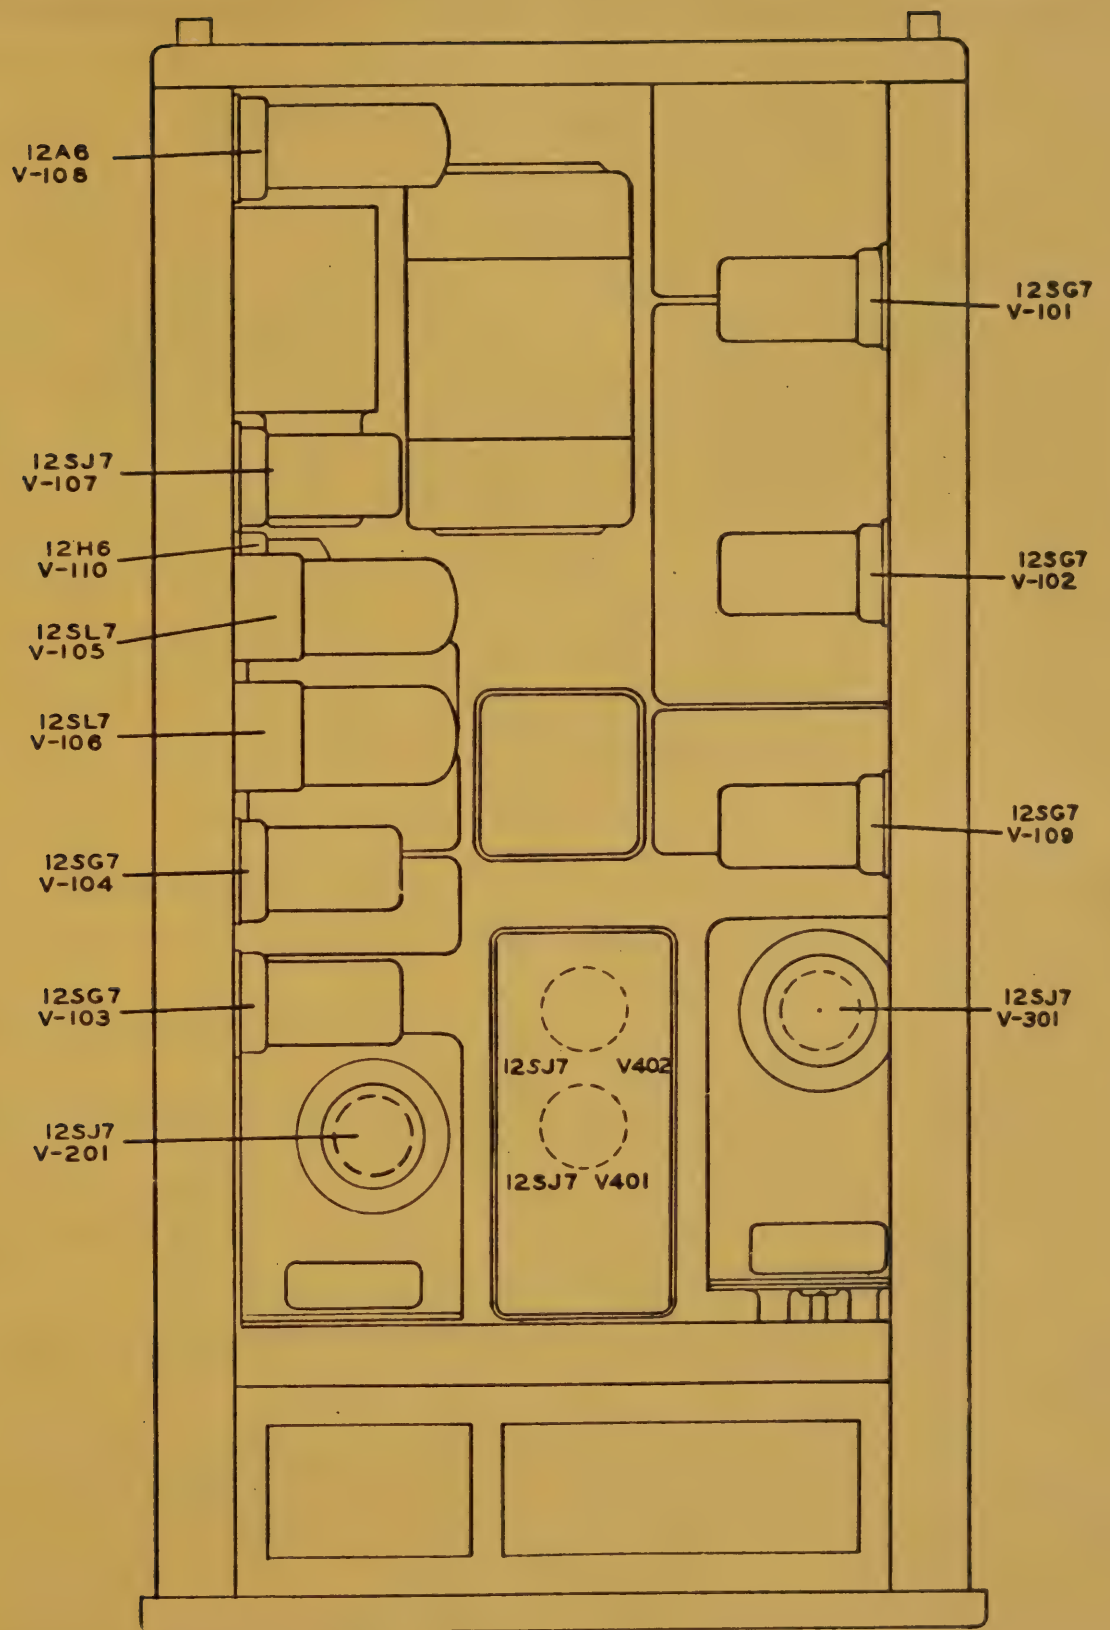

Figure 3-1 Tube Placement Diagram
(1) UNPACKING. - All the equipment for the Model 51H-3 Receiving installation which is supplied by the contractor is in one crate. This equipment consists of a receiver unit, a receiver mounting base, and a power connector to be attached to the mounting base. If the crate is marked with arrows to indicate the upright position, remove the crate cover only. Remove the packing material and lift the units out carefully. Search all the packing material for small packages. Inspect each unit for loose screws and bolts. Be certain that all controls such as switches, dials, etc., work properly. All claims for damage should be filed promptly with the transportation company. If a claim for damage is to be filed, the original packing case and packing material must be preserved. Check the equipment received against the table EQUIPMENT SUPPLIED (Section 1, paragraph 2, page 1-1).
(2) CHECKING VACUUM TUBES AND PLUG-IN UNITS. - Loosen the receiver unit from the cabinet by disengaging the Dzus fastener that protrudes through the rear of the cabinet. Remove the receiver unit from the cabinet by pulling it forward. With the unit removed from the cabinet check all of the vacuum tubes to be certain that the proper tubes are securely inserted in the sockets. (Refer to figure 3-1 for the location of the tubes.) Make sure that all the plug-in units are firmly fastened.
(3) CHECKING CONTROLS FOR PROPER OPERATION. - Unlock the AUTOTUNE mechanism that operates the BAND switch and TUNING control by rotating each locking key two revolutions in a counterclockwise direction. Check each control by rotating it through the entire range.